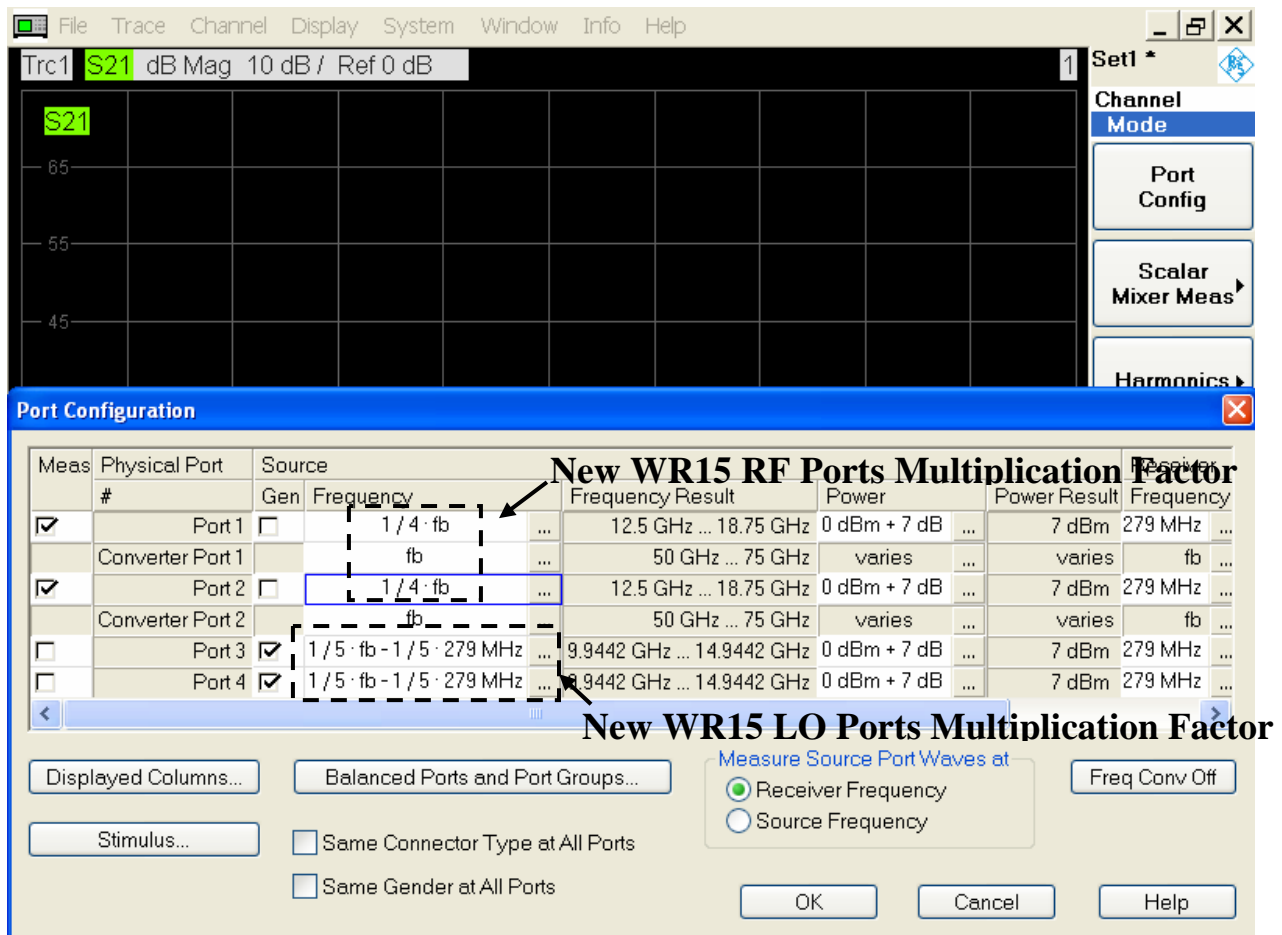

Figure 9 – Completed Modification of RF & LO Multiplication Factor
16. Press “OK” to accept the new RF multiplication factor for port 2 (Figure 9).